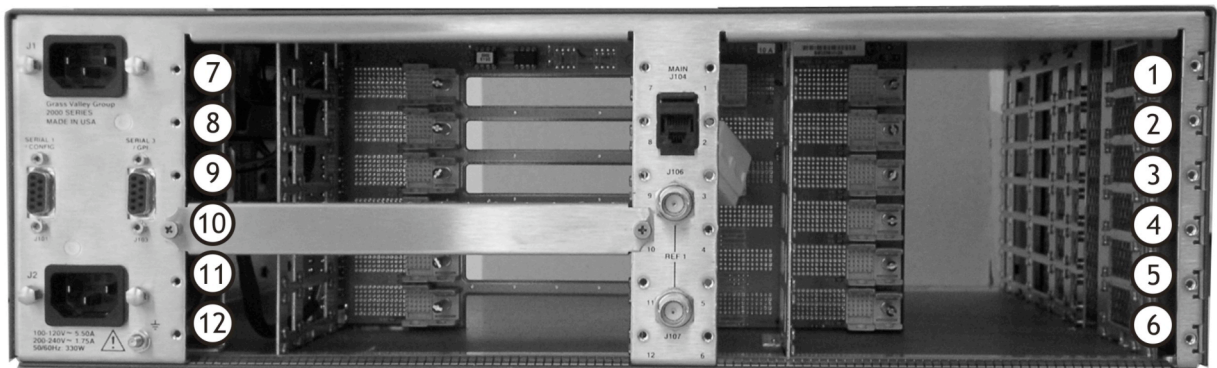

Figure 1 - 3RU Kameleon Chassis (with slot numbers)
1. Locate a vacant slot in the rear of the 3 RU frame. Since the XMR-IO-1 rear module takes up two slot spaces, make sure that placement of the rear module will align with available spaces in the front of the frame. See Figure 1, which shows the slots and slot numbers for the chassis.